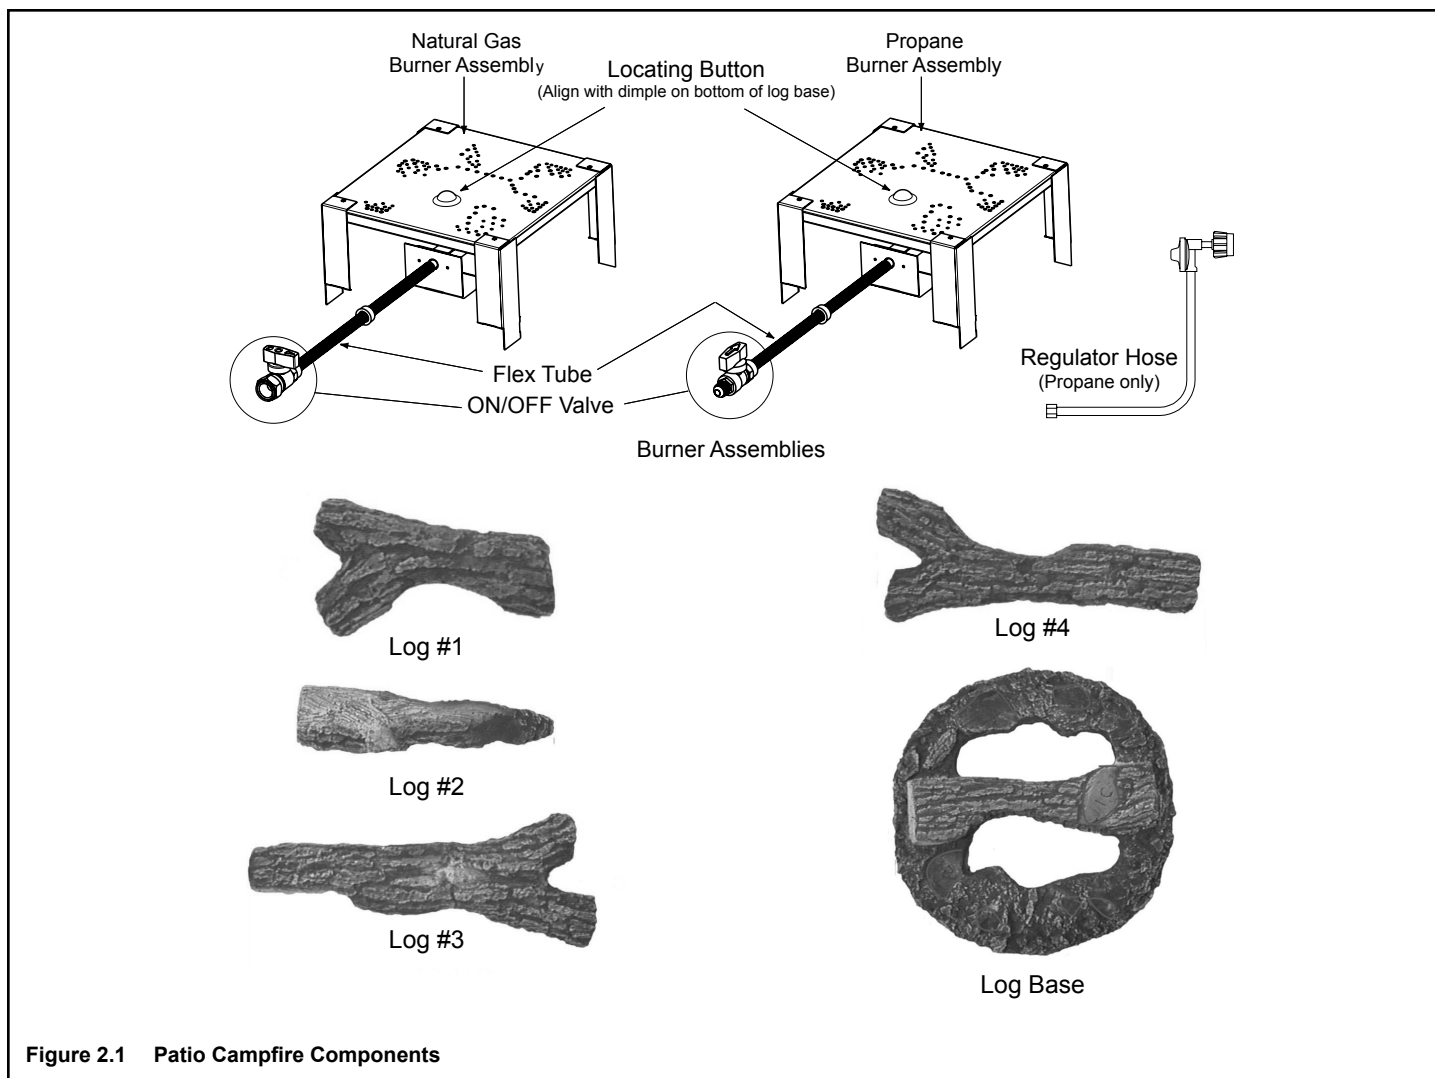

Figure 2.1 Patio Campfire Components
- Position the log base over the burner making sure to align the dimple in the log base over the locating button on the burner top (see Figure 2.1 for locating button).